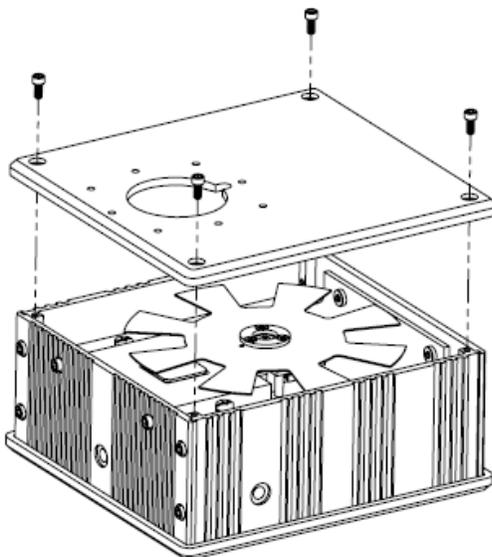

Figure B.1 Remove Front Cover
STEP 1. Remove the front cover by removing the four (4) screws as shown in Figure B.1.